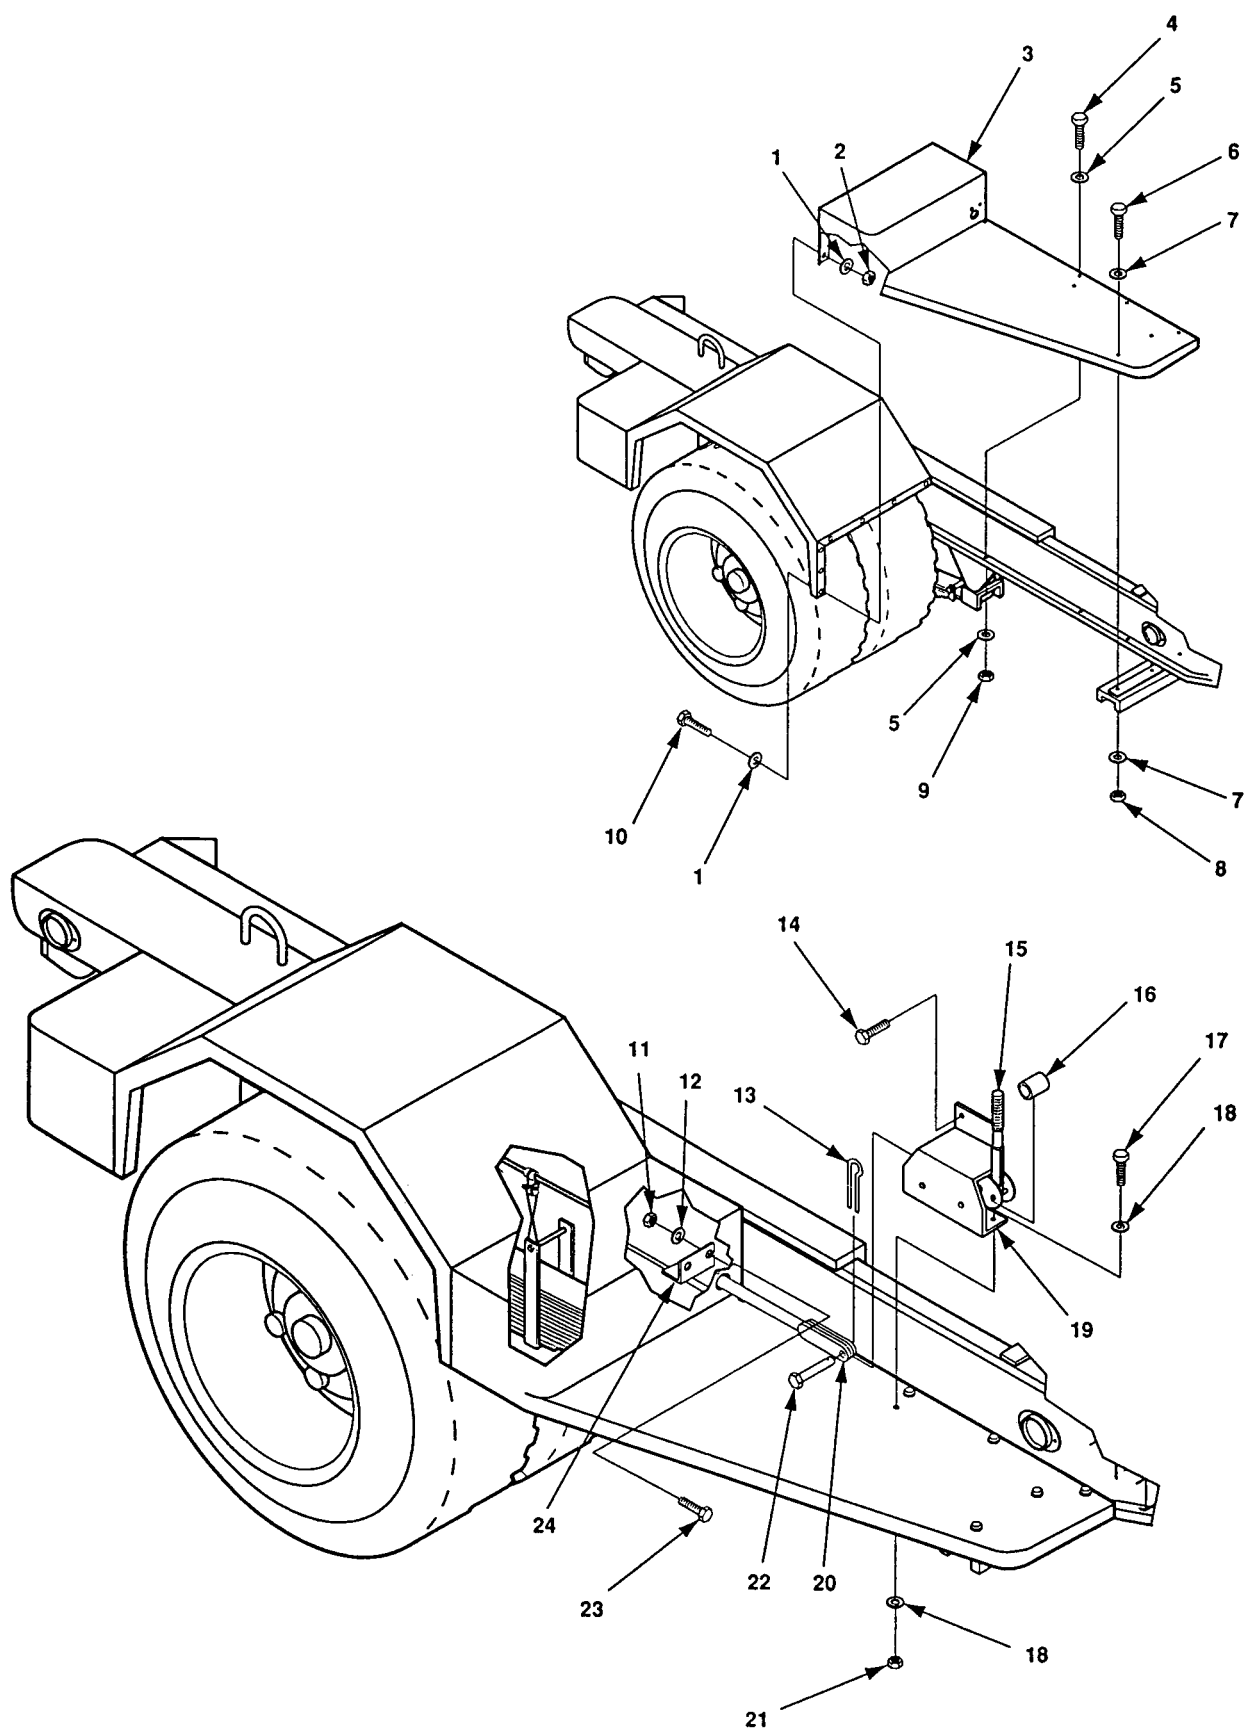

Figure 4-22 Front Step Replacement.
3. Remove cotter pin (13, figure 4-22), spacer (16), and clevis pin (22) securing handbrake cable to handbrake lever mechanism (15).
4. Remove two screws (14) that secure handbrake bracket (19) to trailer frame.
5. Remove two self-locking nuts (21), flat washers (18) and screws (17) securing handbrake bracket (19) to front step (3). Discard self-locking nuts.